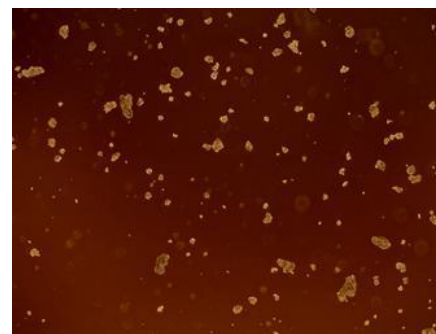

Figure 3 – colonies seeded on 6-well plate
10. Seed cells into as many wells as required (see figure 3).